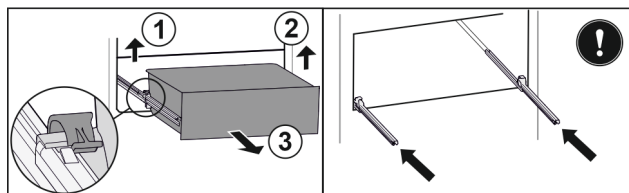

Fig. 106
- Lift left clamp and simultaneously pull drawer forwards on the left. Fig. 106 (1)
- Lift right clamp and simultaneously pull drawer forwards on the right. Fig. 106 (2)
- Remove drawer to the front. Fig. 106 (3)